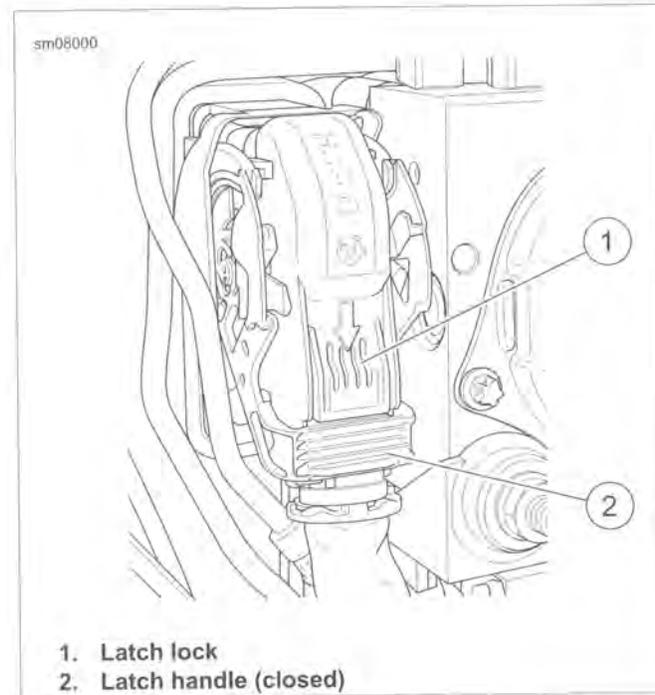
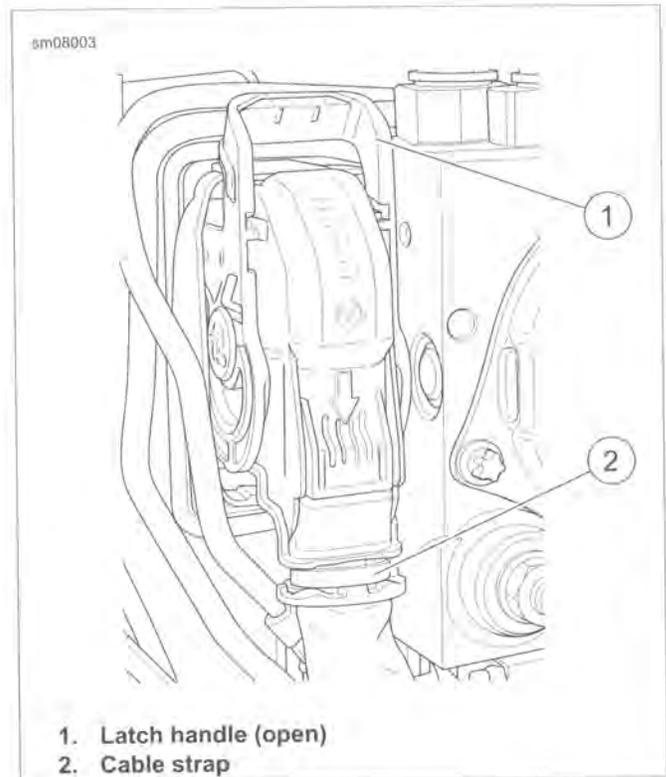

Figure A-6. Bosch BTC Sealed Connector (Latched)
Figure A-7. Bosch BTC Sealed Connector (Unlatched)
1. See Figure A-6. To unplug connector:
- a. While pressing latch lock (1), lift latch handle (2).
- b. See Figure A-7. Raise latch handle into the full upward (open) position (1).
- a. See Figure A-7. Remove and discard cable strap (2).
- c. See Figure A-7. Install **new** cable strap (2).